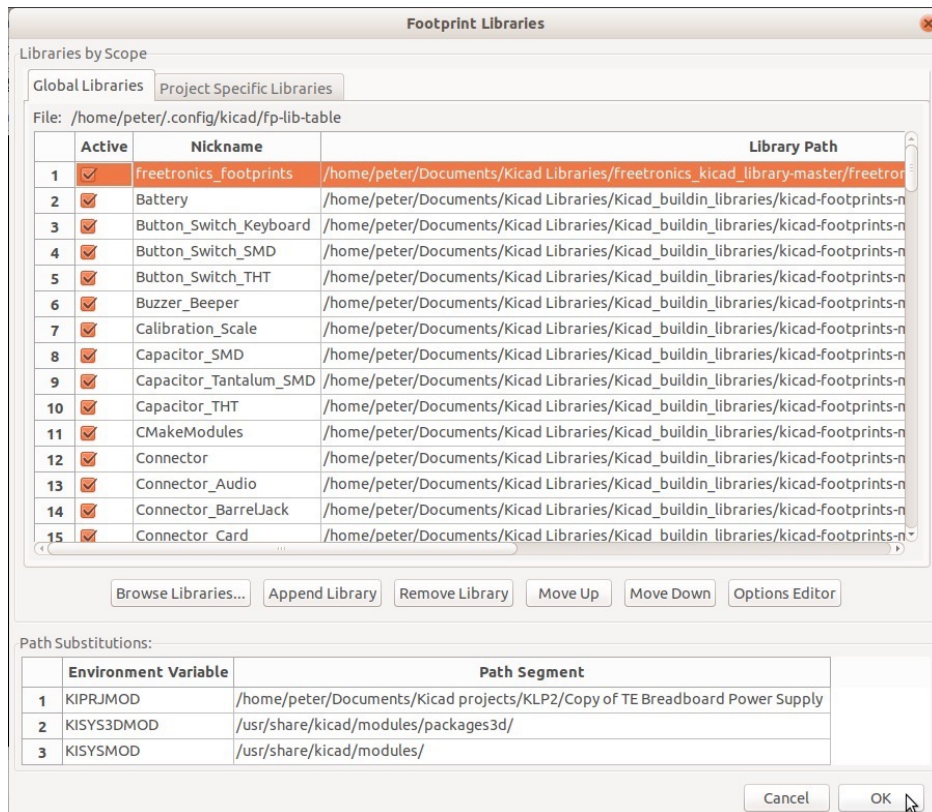

Figure 22.1: These footprints are stored locally.
10. The Footprint Libraries now contains a list of all the footprint libraries saved on your local machine, in the Local Libraries tab (Figure 22.1). This means that you can use these footprints in all your projects.